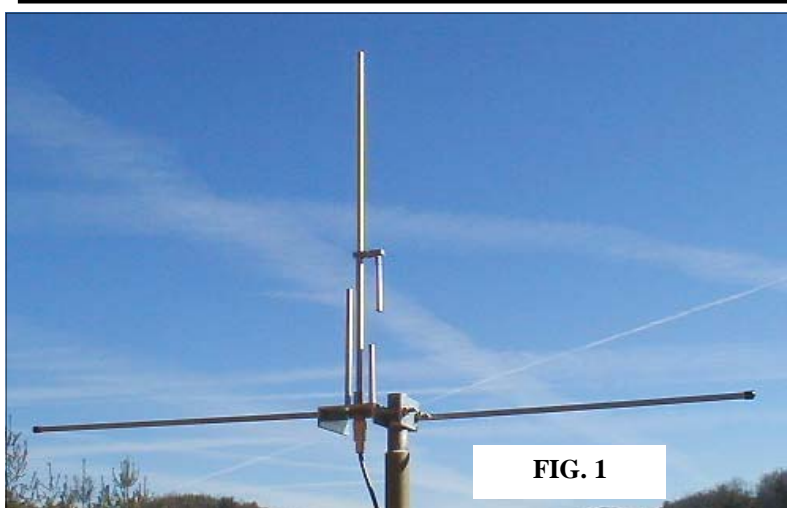

FIG. 1
1. Refer to Fig. 1 and 2. The main bracket (SUB1801), coaxial connector (SUB1802), main radiator tube (SUB1805), 800MHz radiator (1804), 800MHz trap (1808,5028) and UHF radiator (1803) come preassembled
2. Refer to Fig 1 and Fig. 2. Locate the two 3/16"X17.5" radials (1815). Attach the radials to the main bracket using two 6-32X3/4" stainless phillips screws (1813) and #6 lockwashers. The lockwashers should be placed underneath the screw heads..